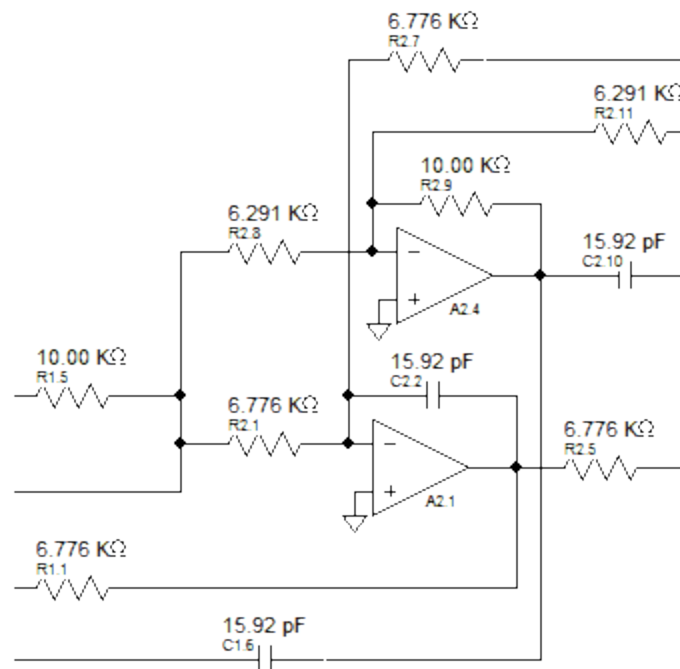

Figure C1:Leap Frog Transmission Zero Positive Gain Stage With Miller Integrator and Differentiator
3. Parallel traditional negative gain integrator and differentiator. (2 Opamps, Figure C1 Below)